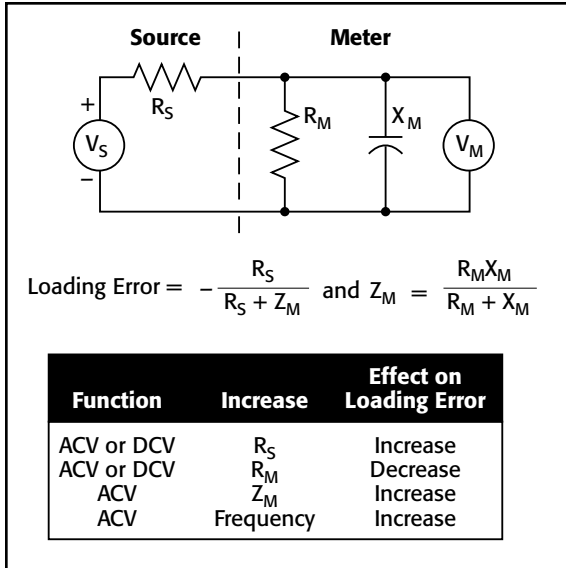

Figure 3: Loading Error
**Loading error** (**Figure 3**) is the difference between the voltage measured by the meter ( $V_M$ ) and the voltage of an ideal source ( $V_S$ ).